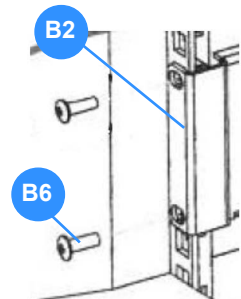

Figure 3.7
2. Align the two holes in the back of the adjustable mounting rail with the holes in the cabinet's vertical fixing rail (see Figure 3.7).